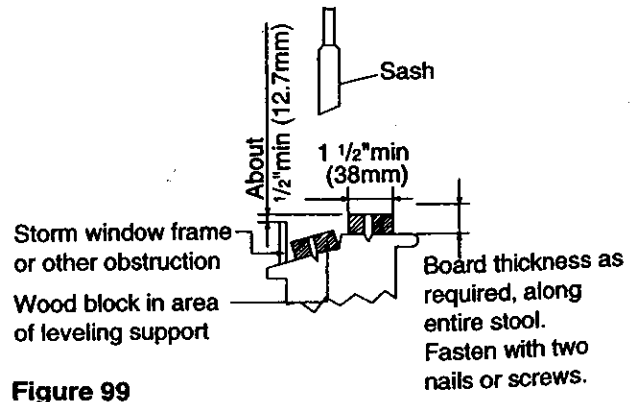

Figure 99
19. If AIR CONDITIONER is Blocked by Storm Window FRAME, add wood to clear frame as shown in Figure 99, or remove storm window frame while air conditioner is installed.